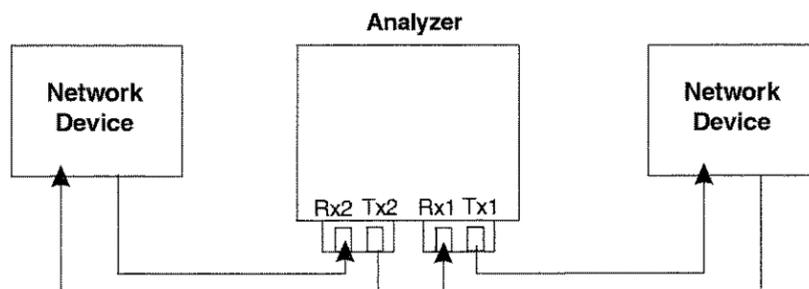

Figure 3-4. Signal path in Monitor connection mode
Use the TX1, RX1, TX2, and RX2 ports to connect the DominoGigabit analyzer to operate as a pass-through monitor (Figure 3-4). In this mode, the transmitter ports (TX) are used internally to the analyzer to regenerate the optical signal from the receiver ports. You cannot transmit frames from the DominoGigabit analyzer when connected to the network in this mode.